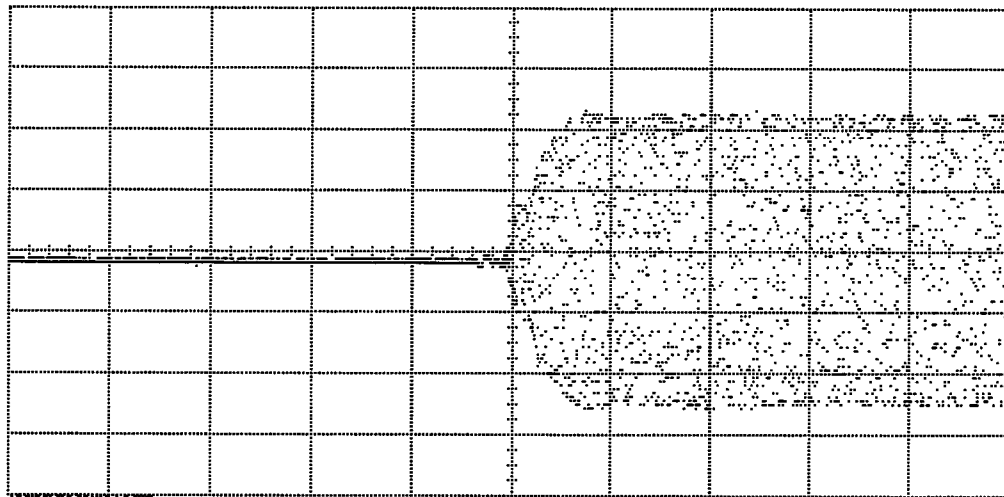

Figure 3-15. Pulse Rise Time Measurement
1. Adjust the synthesizer RF output level so that the upper half of the envelope spans 2.5 vertical graticules as in Figure 3-15.
2. Adjust the oscilloscope's horizontal DELAY and vertical OFFSET functions in order to position the rising edge of the pulsed RF so that the 10% and 90% points cross horizontal graticules. Refer to Figure 3-15.